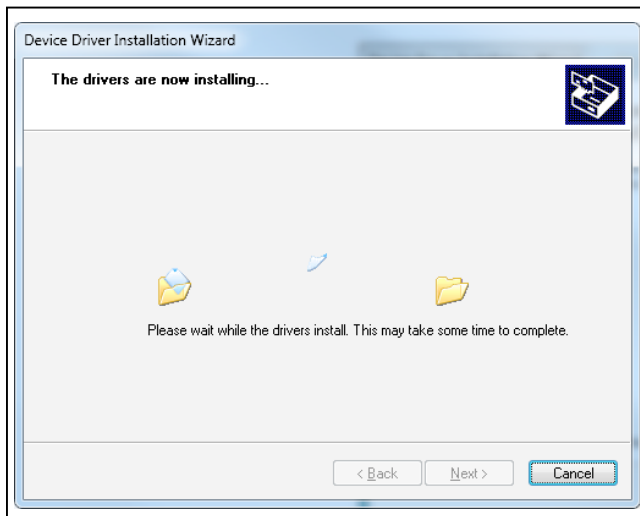

Figure 8. Driver Install (Step 2)
- 6) Wait for the completion of the installation (Figure 8).